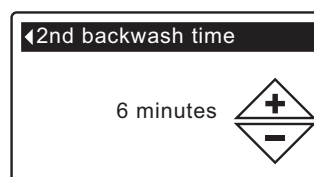

FIG. 71
- 8c. **Second backwash time:** Press the UP (▲) or DOWN (▼) buttons to change the second backwash time. Hold the button down to rapidly advance. The time can be set from 1 to 30 minutes (See Figure 71).